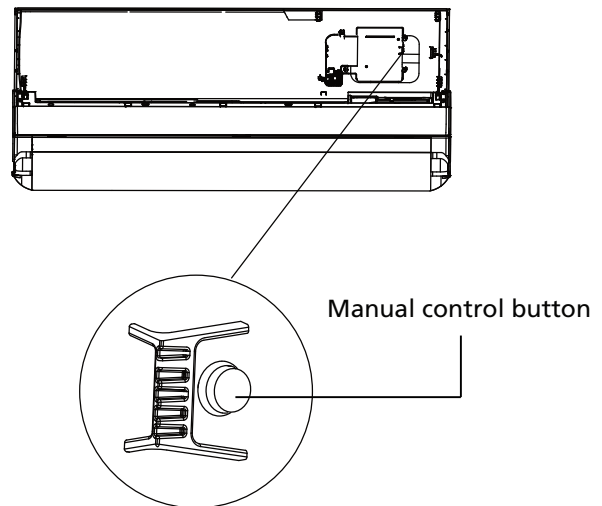

Fig. 8.1
2. The **MANUAL CONTROL** button is located on the right-hand side of the display box. Press it two times to select the COOL function. See **Fig.8.1**